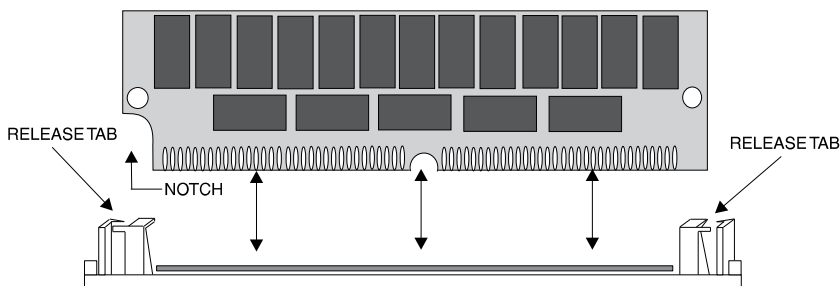

Figure 3-1 Installing a 72-Pin SIMM
1. Hold the SIMM so that the notched edge is aligned with the notch on the SIMM socket (Figure 3-1).